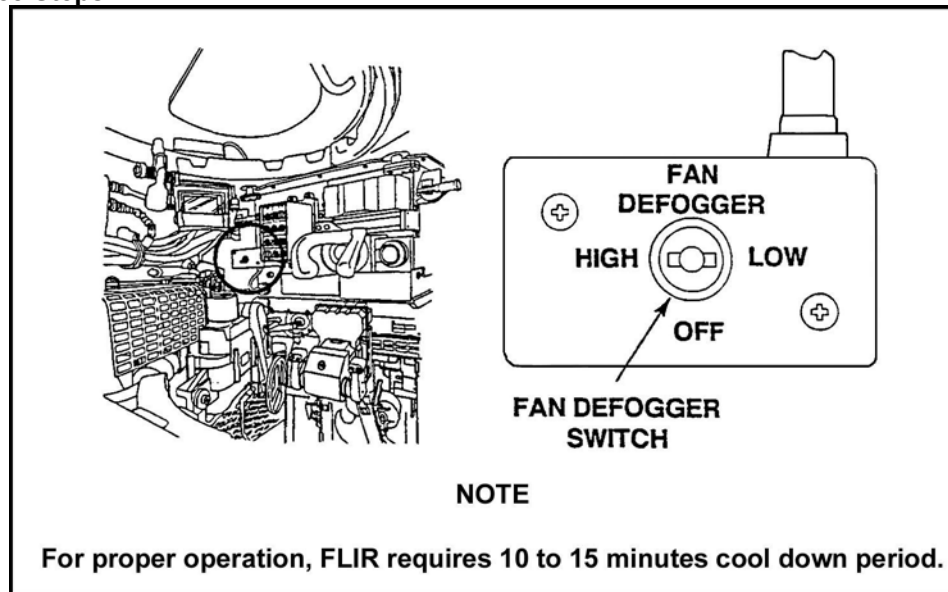

Figure 17. Fan defogger switch.
- ( d ) In the power mode, dry cycle the 25mm gun twice in high explosive (HE) and twice in armor piercing (AP).
- ( 7 ) During normal operating conditions, ensure the IBAS defogger fan switch is in the OFF position (Figure 17).